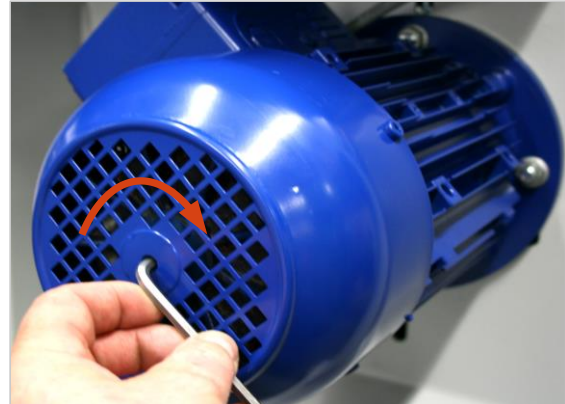

Figure 45: Readjusting the BSM 7-60 motor brake
- Insert an angled SW5 Allen key through the fan cover and insert it into the hexagon socket of the front-side set screw (see ⇒ Figure 45).
- Turn the Allen key approx. 1/8 turns clockwise as shown in ⇒ Figure 45).